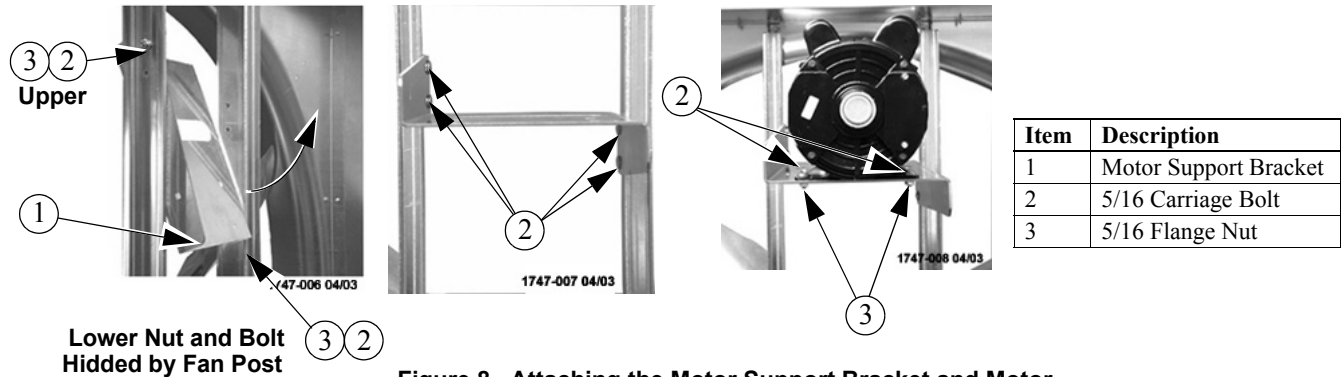

Figure 8. Attaching the Motor Support Bracket and Motor
Rotate the Motor Support Bracket into the upright position by removing the **Upper** Carriage Bolt and Nut and loosening the **Lower** Bolt and Nut (**See Figure 8**). Rotate the Motor Support Bracket until it is perpendicular to the Fan Posts and fasten with (4) 5/16 Carriage Bolts and (4) 5/16 Flange Nuts. *Note that the Nuts go outside the Posts.* Remove the Motor from the Crate and attach it to the Motor Support Bracket with (4) 5/16 Carriage Bolts and (4) 5/16 Flange Nuts as **shown**.